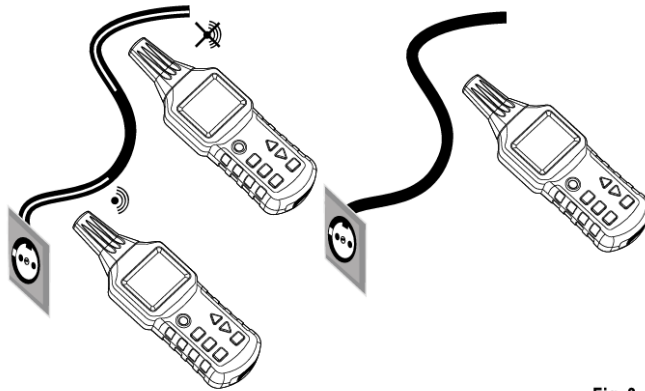

Fig. 3-4
- Measurement must be performed as shown in Fig. 3-4.